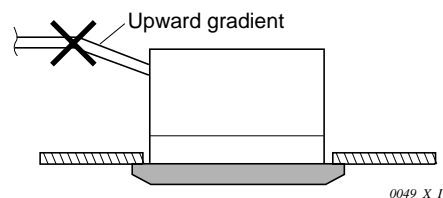

Fig. 3-42
- Do not install pipe with an upward gradient from the connection port. It will cause the drain water to flow backwards and leak when the unit is stopped. (Fig. 3-42)